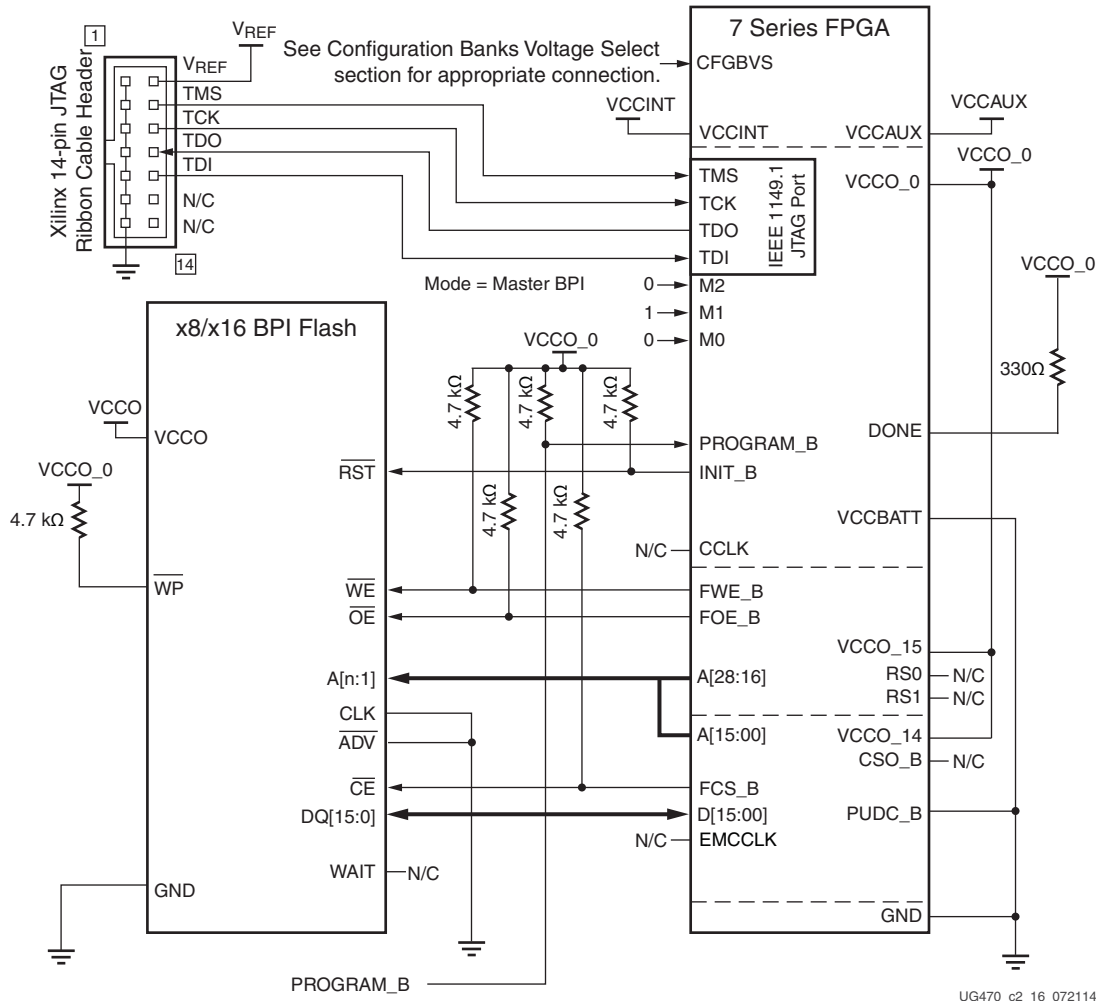

Figure 2-17: 7 Series FPGA Master BPI Configuration Interface - Asynchronous Read Example
By default, 7 series FPGAs use the asynchronous mode of the BPI flash to read bitstream data as shown in Figure 2-17, page 60. The FPGA drives the address bus from a given start address, and the BPI flash sends back the bitstream data. The default start address is address 0. The start address can be explicitly set in a MultiBoot reconfiguration procedure as outlined in Chapter 7, Reconfiguration and MultiBoot. In asynchronous read mode, supported bus widths of x8 and x16 are auto-detected as described in Bus Width Auto Detection, page 80.
Notes relevant to Figure 2-17:
4. Figure 2-17 shows the x16 BPI interface. For x8 BPI interfaces, only D[07:00] are used. See Bus Width Auto Detection, page 80.
7. The RS[1:0] pins are not connected as shown in Figure 2-17. These output pins are optional and can be used for MultiBoot configuration. See Chapter 7, Reconfiguration and MultiBoot.
11. The FPGA mode (M[2:0]) pins are shown set to Master BPI mode (010). The implementation of a board-level option that enables the user to change the FPGA mode pins to JTAG mode (101) is recommended to enable JTAG-based debug capability for the FPGA during design. This is not required, but the JTAG mode setting ensures that there is no interference from the Master BPI configuration during debug.